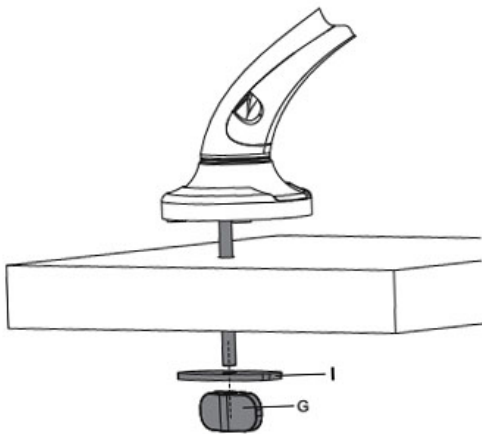

Figure 5
3. Position the Arm Assembly onto the desktop, secure it using the Grommet Clamp (I) and Wing Nut (G), see Figure 5. **Warning:** Carefully screw the Wing Nut to prevent cross-threading and damage to the grommet bolt.